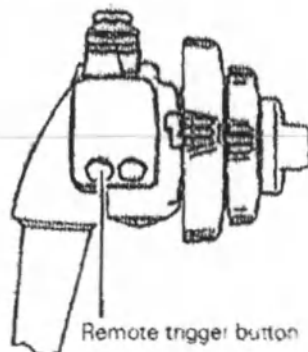

Рис. 19.
1. Press the remote activation button on the endoscope handle (see Figure 19) to start remote image printing on a compatible printer.